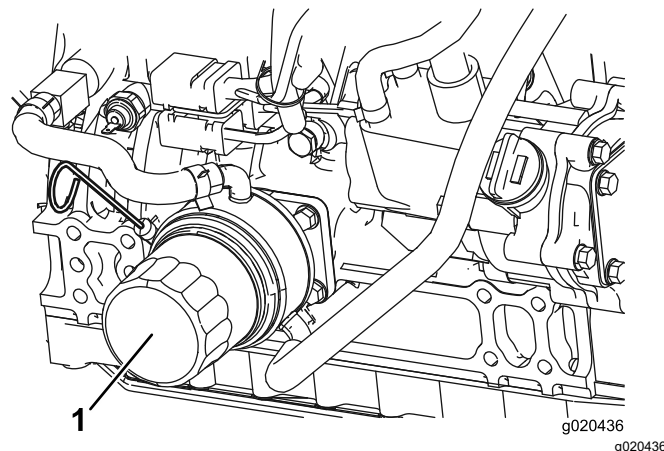

Figure 29
3. Remove the old filter (Figure 29) and wipe the surface of the gasket seal on the filter head.